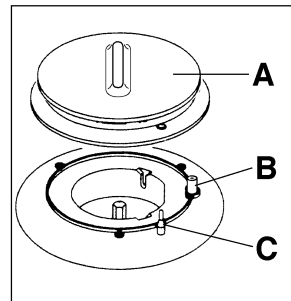

Fig. 1
- Upon ignition, keep the knob pushed down about **5 seconds**. This will allow the "thermocouple" (Fig. 1 - letter C) to be heated and the safety device to be switched off, otherwise the gas supply would be interrupted.
The electric ignition is obtained through a ceramic "electrode" and a metal electrode (fig. 1 - letter B). Keep these components well clean, to avoid difficult lighting, and check that the burner crown holes are not obstructed.